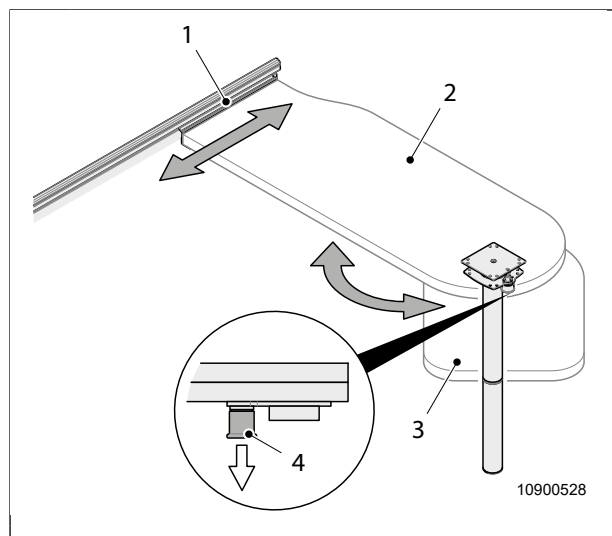

Fig. 23 Swivelling hook-in table
1. Pull the knob (Fig. 23, item 4) down.
2. Swivel the swivelling table top (Fig. 23, item 3) until the knob latches in place.
1. Lift the table top (Fig. 23, item 2) on the right-hand side.
2. Slide the lifted table along the guide rail (Fig. 23, item 1) into the desired position.